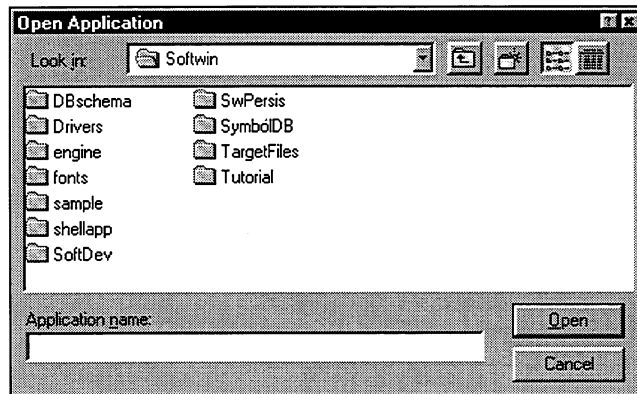

Figure 5-4. Open Application Dialog Box
- Select the Open command on the File menu or the Open button. The Open Application dialog box appears, as shown in Figure 5-4.